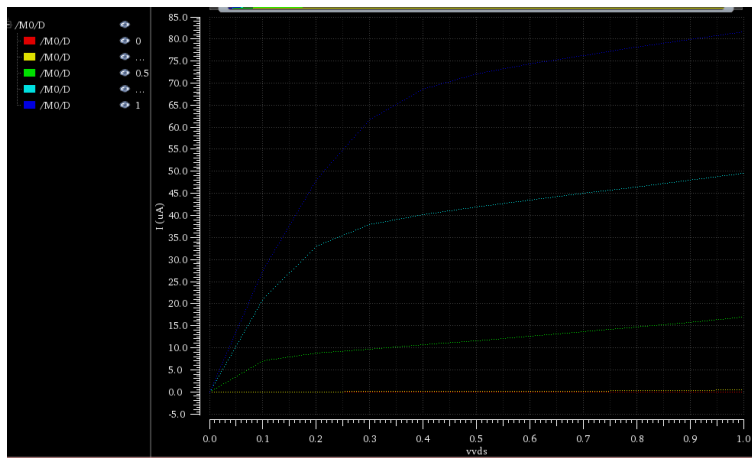

Figure 31: Results of parametric simulation for NMOS
3. The resulting plot will look like in Figure 31.